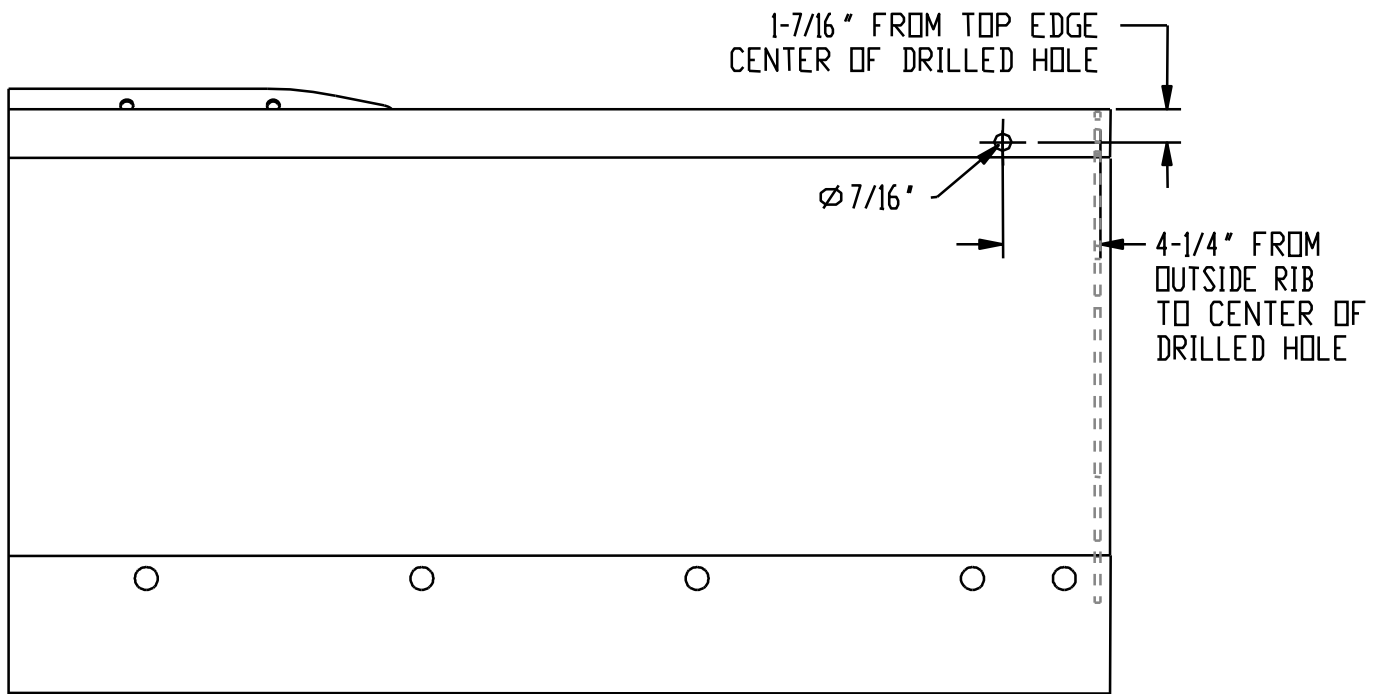

Figure 10. Blade Top Drilled Hole Measurements (ALL PLOW TYPES EXCEPT POLY-V'S. POLY-V HOLES ARE PRE-CUT) G10363
- 2) On Driver Side of plow, measure, mark, and drill one 7/16" diameter hole in Blade Top. See Figure 10.